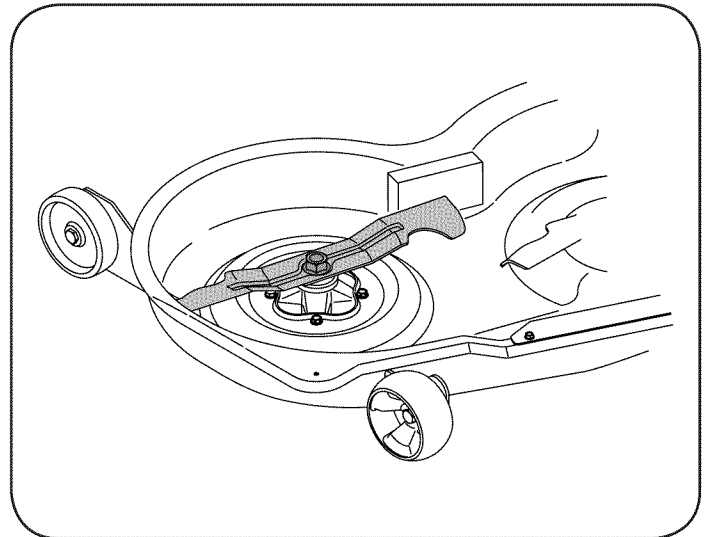

Figure 17
2. Place a block of wood between the center deck housing baffle and the cutting blade to act as a stabilizer. See Figure 17.
3. Remove the hex flange nut that secures the blade to the spindle assembly. See Figure 17.